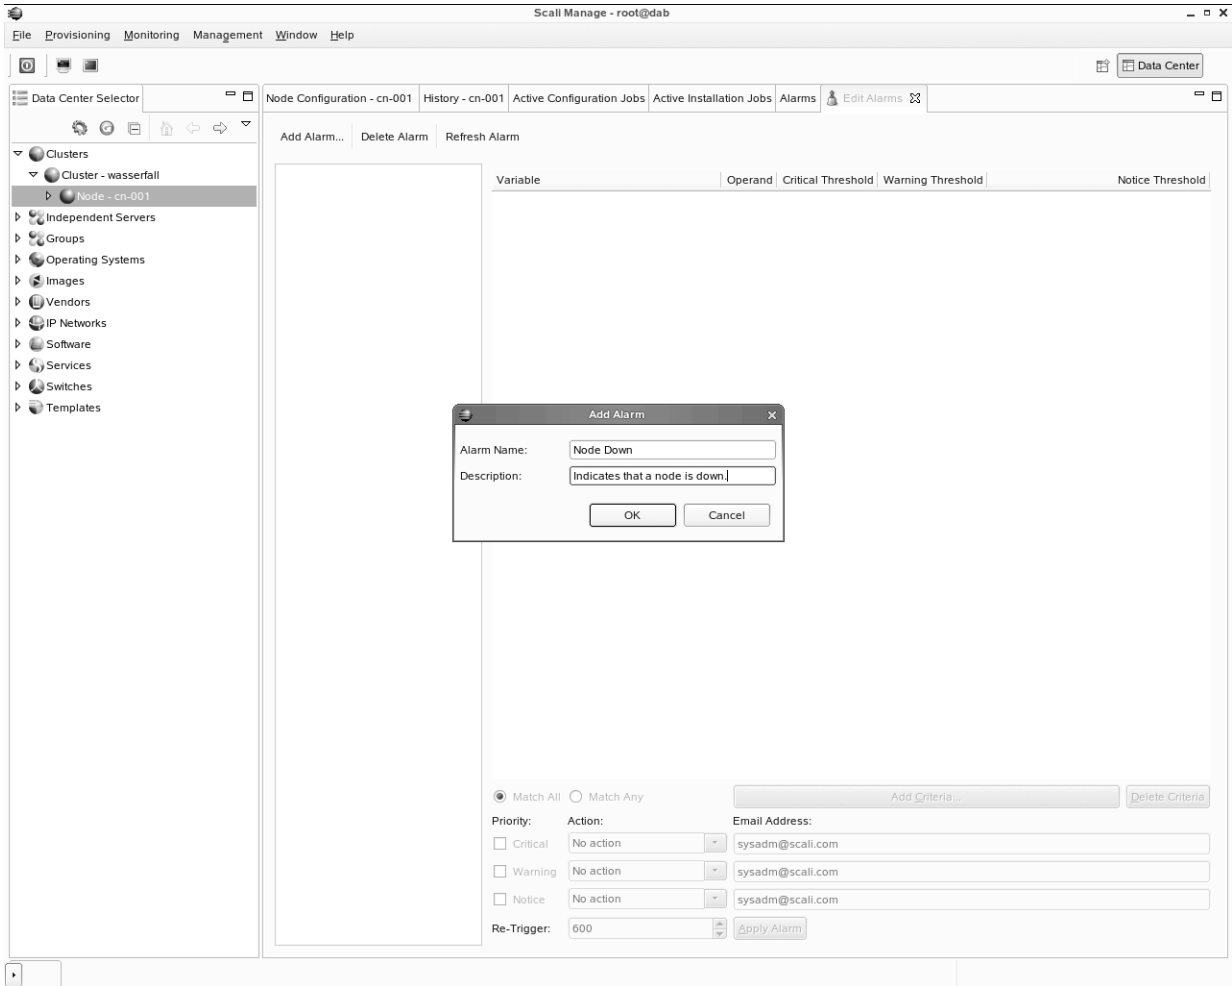

Figure 2-15 Alarm Description Pop-up Example
5. A popup appears offering input for the alarm name and an optional description, refer to Figure 2-15.